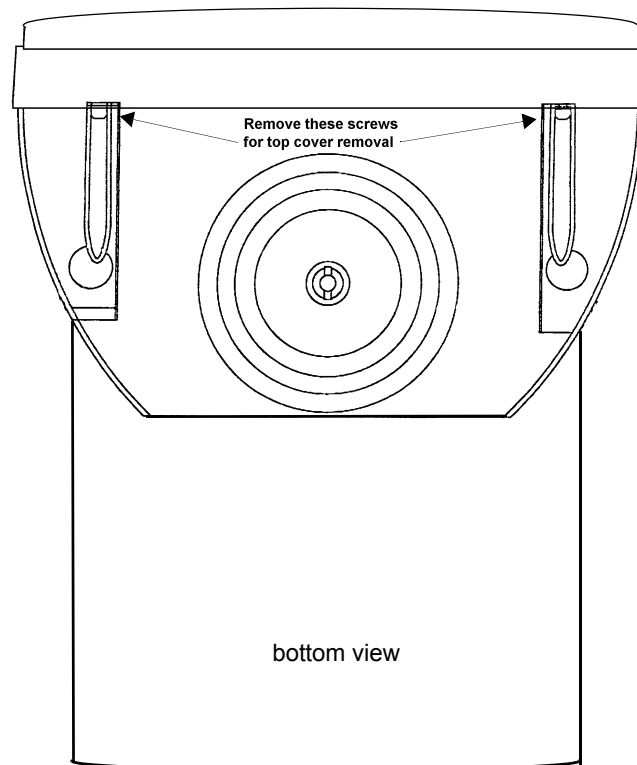

Figure 4-2: Location of the screws
2. Refer to *Figure 4-2* for the location of two screws on the bottom of the display.